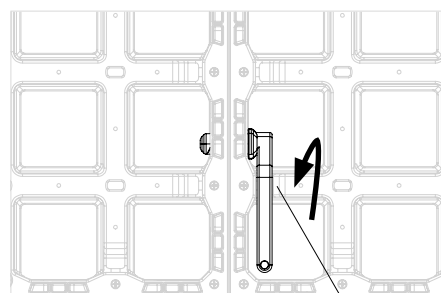

Fig. A3.03d
2. Swivel the hand grip until it completely disappears in the coupler recess of the DP panel. (Fig. A3.03d + A3.03e)